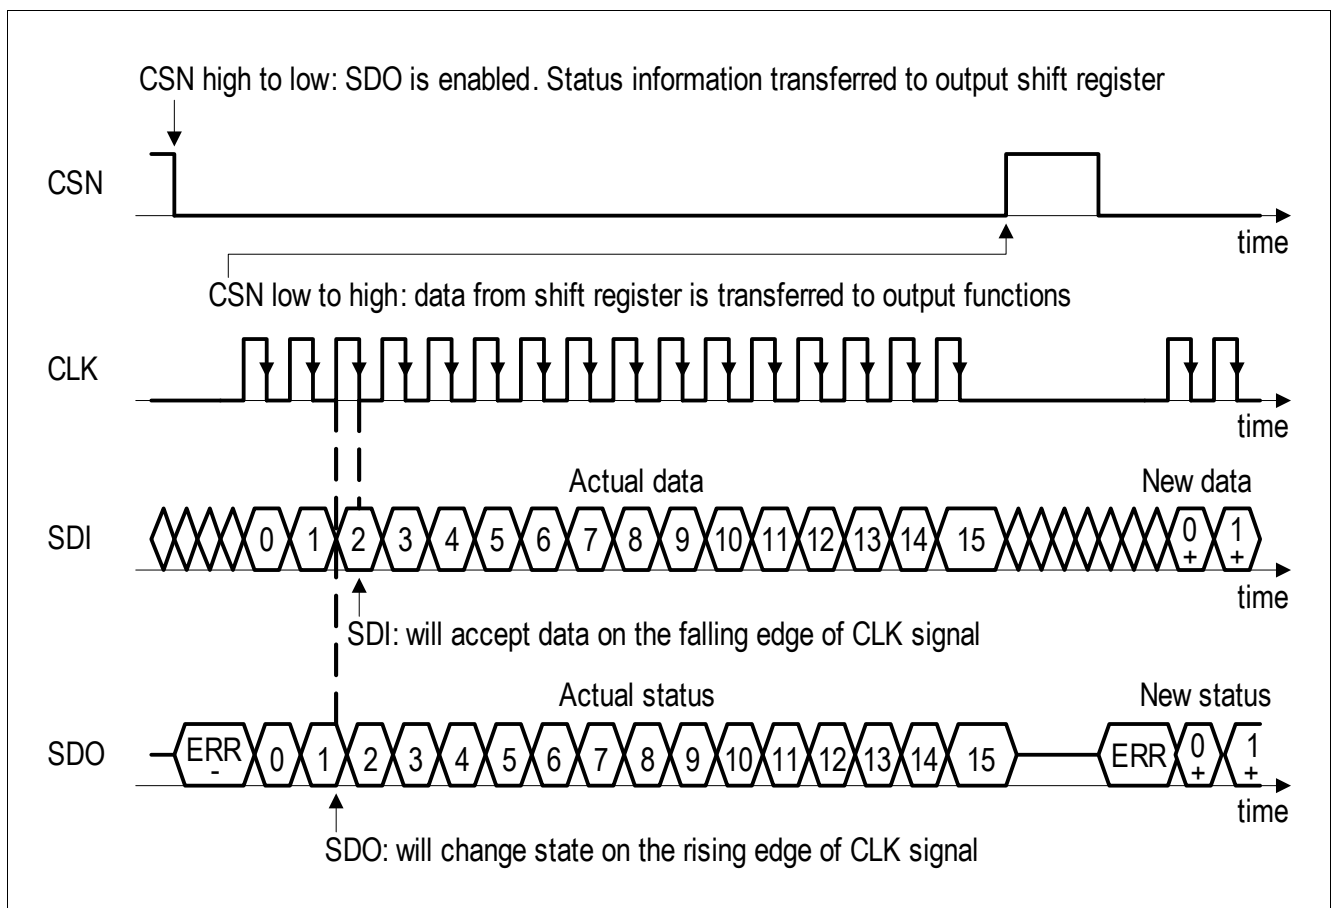

Figure 39 SPI Data Transfer Timing (note the reversed order of LSB and MSB shown in this figure compared to the register description)
The Control Input Word is read via the data input SDI, which is synchronized with the clock input CLK provided by the microcontroller. The output word appears synchronously at the data output SDO (see Figure 39 with a 16-bit data access example).
**Signalization of the ERR Flag (high active) in the SPI Data Output (see Figure 39):**